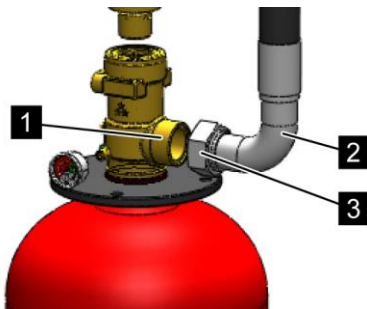

Fig. 62: Mounting the hose
Align valve outlet (Fig. 62/1) and cap nut (Fig. 62/3) of the hose (Fig. 62/2) or of the connecting piece (for version without hose) so that they are precisely flush.
8. ➔ Initially screw the cap nut (Fig. 62/3) of the hose (Fig. 62/2) or connecting piece (for the version without hose) to the valve outlet (Fig. 62/1) hand tight.